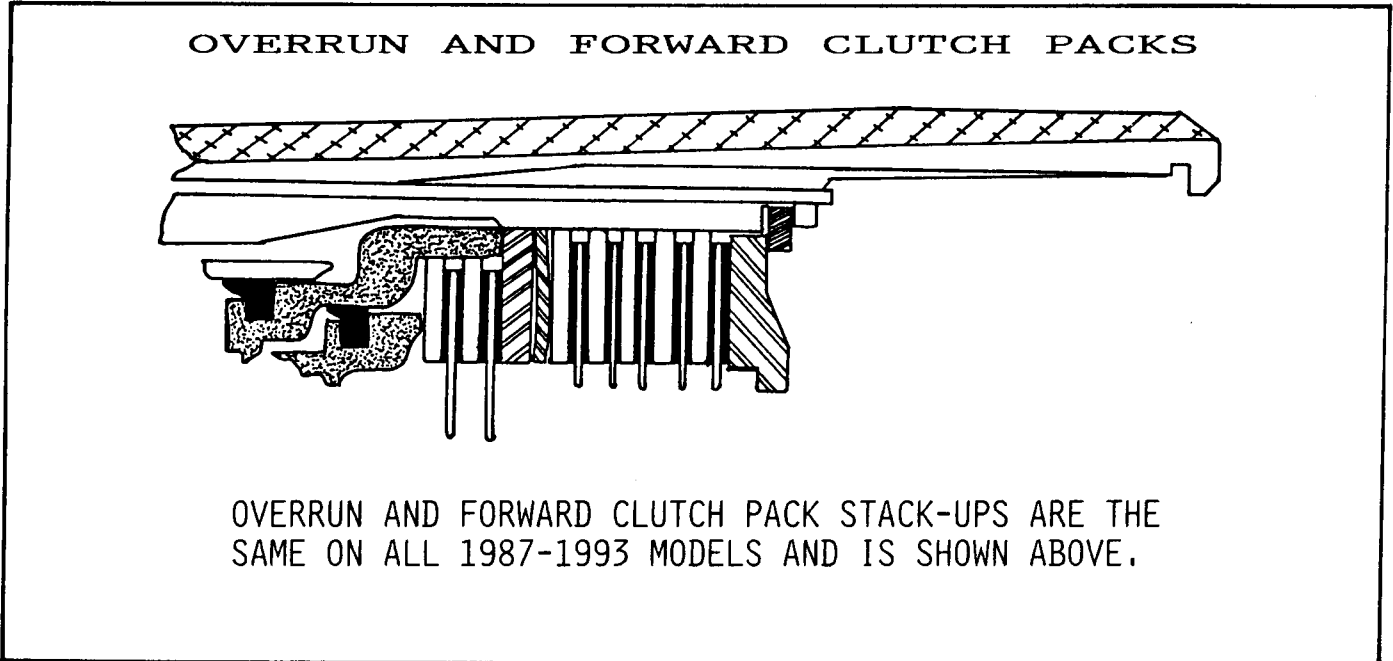

Figure 127
2. The forward clutch apply plate is the thickest (.169" Thick) as shown Figure 127 and 128.
4. Install the remainder of the forward clutch plates beginning with a steel plate on top of the waved plate, and alternating with friction plate until you have installed five steel plates and five friction plates. Refer to Figures 127 and 128.